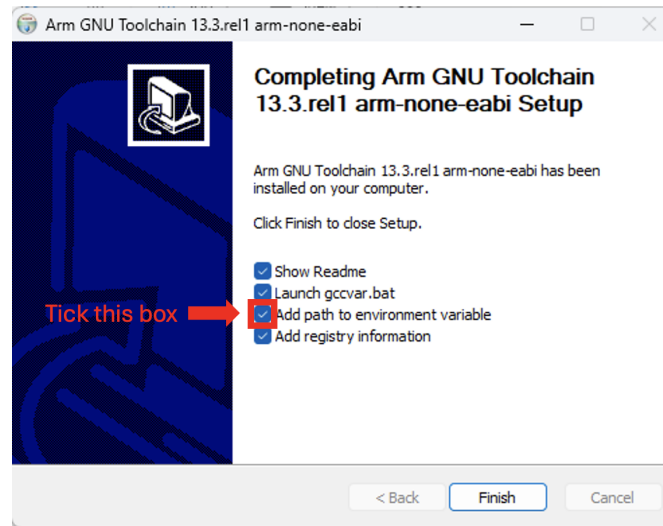

Figure 1: The GNU Toolchain installation wizard.
- For Windows: Download and use `arm-gnu-toolchain-13.3.rel1-mingw-w64-i686-arm-none-eabi.exe`. You can add the installation directory to the PATH environment variable at the end of the installation wizard (See Figure 1).